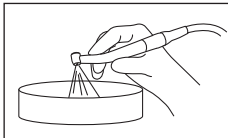

Fig. 9
- 4) Operate the handpiece at the chair-side for at least 20 seconds to purge fluids in the handpiece (Fig. 9). After the handpiece rotation has completely stopped, touch the handpiece head to confirm the head is NO heating abnormally.